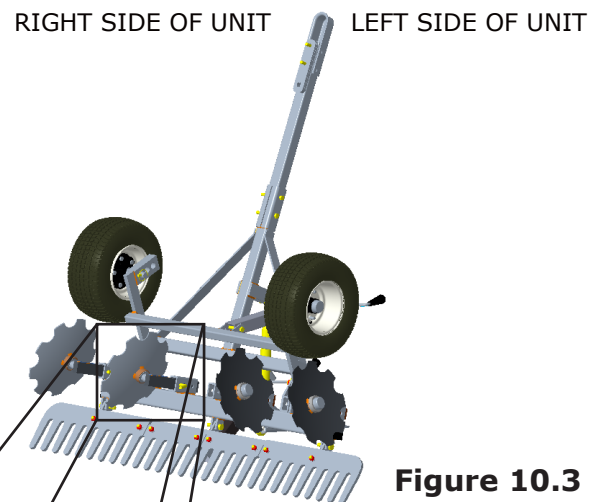

Figure 10.3
2. Slide Left Disc assemblies into the pockets on the left side of unit and Right Disc assemblies into the pockets on the right side of unit. (**Figure 10.3**)
- Disc shanks must be slid into every other pocket with the shanks toward the inside and the discs facing outward of the unit so the discs will push the soil outward (**Figure 10.3**).